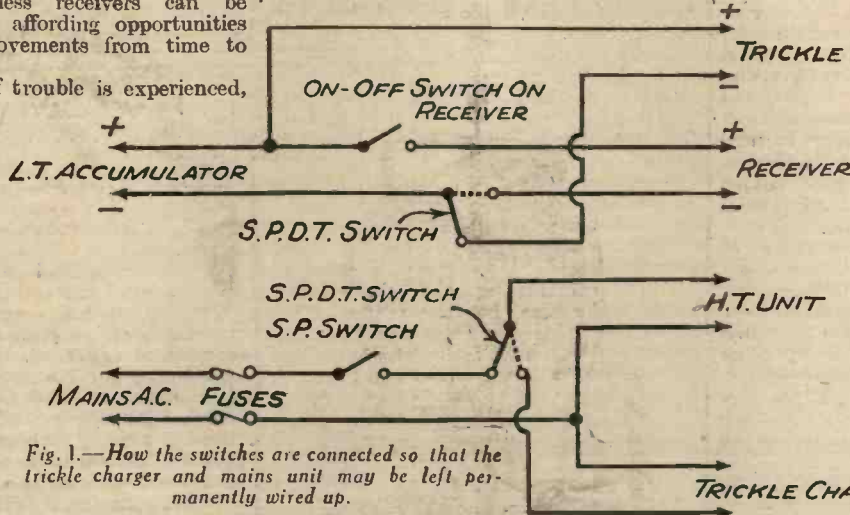

Fig. 1.—How the switches are connected so that the trickle charger and mains unit may be left permanently wired up.
catalogued in the theoretical diagram (Fig. 1) will reveal that the outstanding advantages are (1) it is quite impossible for the trickle charger and the H.T. unit to be used simultaneously, (2) the valves in the receiver are entirely isolated during charging operations, and (3) the "Mains" plug can be left in its socket continuously, as the current is made or broken by a switch on the control board.